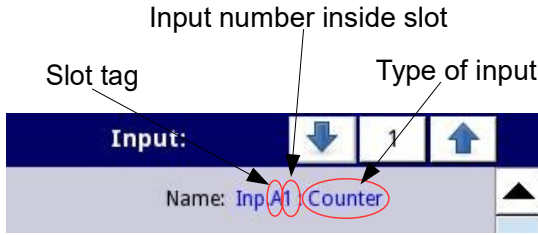

Fig. 7.81. Description of **Name** parameter in **Built-in inputs** menu
A common parameter for all **Built-in inputs** is **Name** – each input has its own unique name and it can not be changed – for description of this parameter see **Fig. 7.81**.
- **Name** - each built-in input already has a name given by the device and the user cannot change it, for the description of the **Name** parameter see **Fig. 7.81**,
- **Name** – each built-in input already has a name given by the device and the user cannot change it, for the description of the **Name** parameter see **Fig. 7.81**.
- **Name** – each built-in input already has a name given by the device and the user cannot change it, for the description of the **Name** parameter see **Fig. 7.81**,